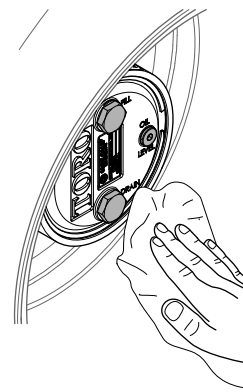

Figure 108
3. Wipe clean the planetary and brake housings (Figure 108).